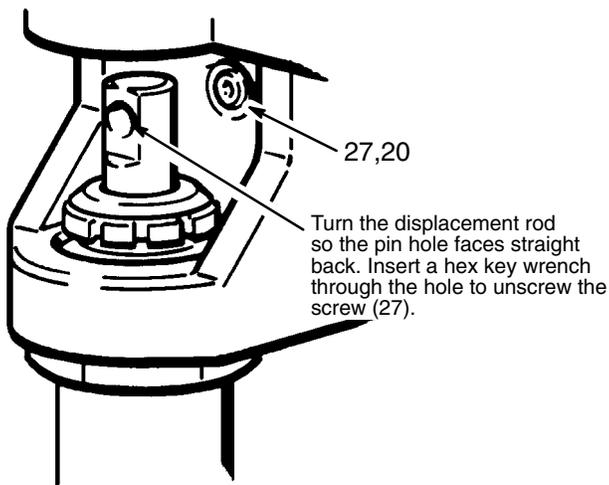
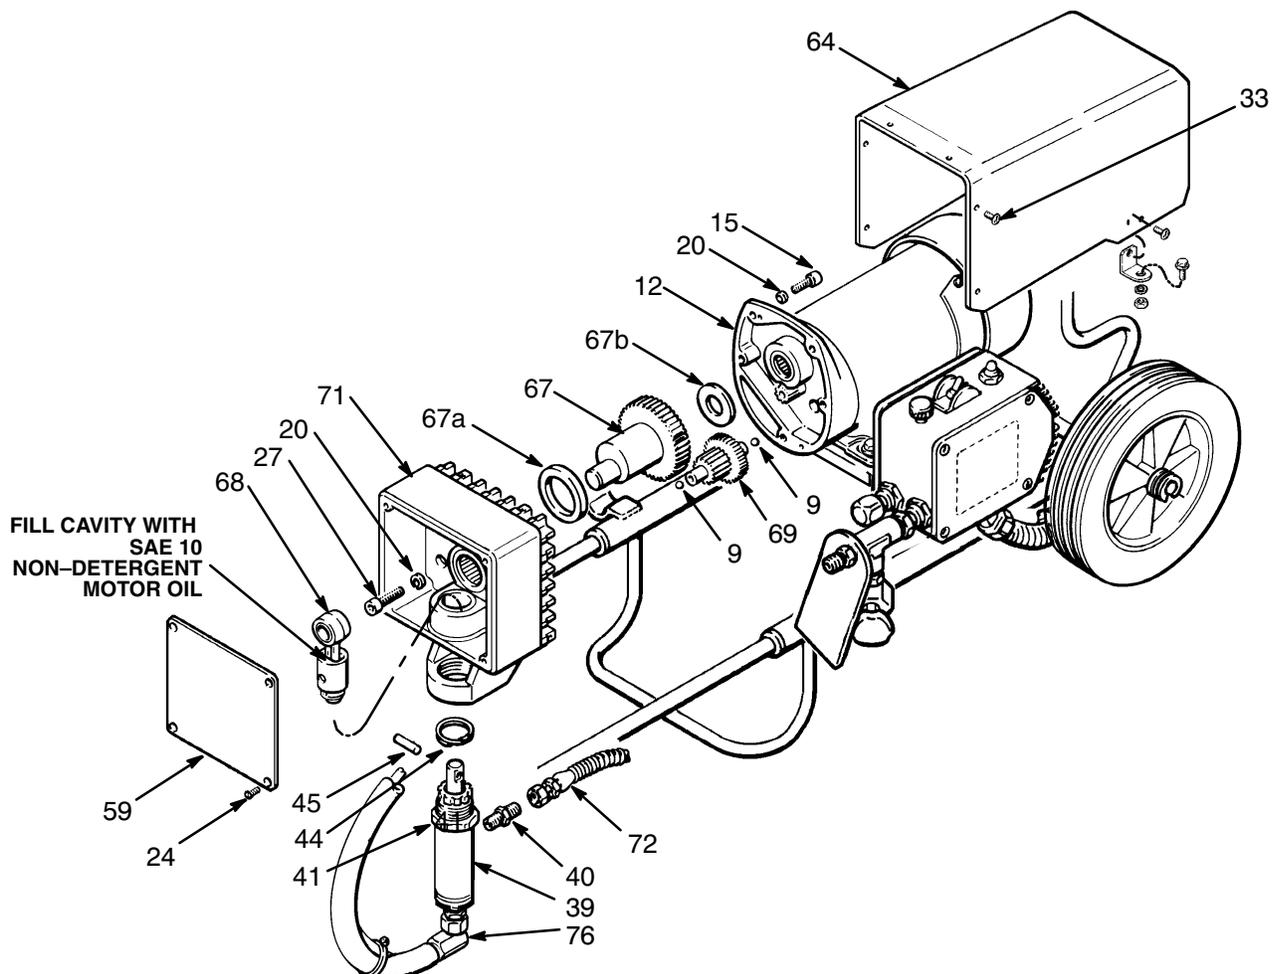

Fig 28-2
Fig 29-1
Refer to Fig 29-1 for Steps 1 to 18 unless otherwise noted.
5. Loosen the jam nut (41) with an adjustable wrench. Unscrew and remove the displacement pump.
6. Turn the displacement rod so the pin hole faces straight back. Insert a hex key wrench through the hole to remove the screw (27). See Fig 28-2. Remove the other two screws (27) and lockwashers (20) from the front of the drive housing (71). See Fig 29-1.
7. Remove the motor shield (64).
8. Remove the two screws (15) and lockwashers (20) holding the motor to the drive housing.
9. Lightly tap the lower rear of the drive housing (71) with a plastic mallet to loosen it from the front of the motor. Then pull the drive housing straight off.
17. Screw the displacement pump about 3/4 of the way into the drive housing (71). Hold the pin (45) up to the pin hole in the connecting rod assembly (68) and continue screwing in the pump until the pin slides easily into the hole. Back off the pump until the top threads of the pump cylinder are flush with the face of the drive housing and the outlet nipple (40) is facing back. Push the retaining spring (44) into the groove all the way around the connecting rod. Tighten the locknut (41) very tight – about 70 ft-lb (95 N.m) – with a 2 in. open end wrench and a light hammer. See Fig 29-1 and 29-2.